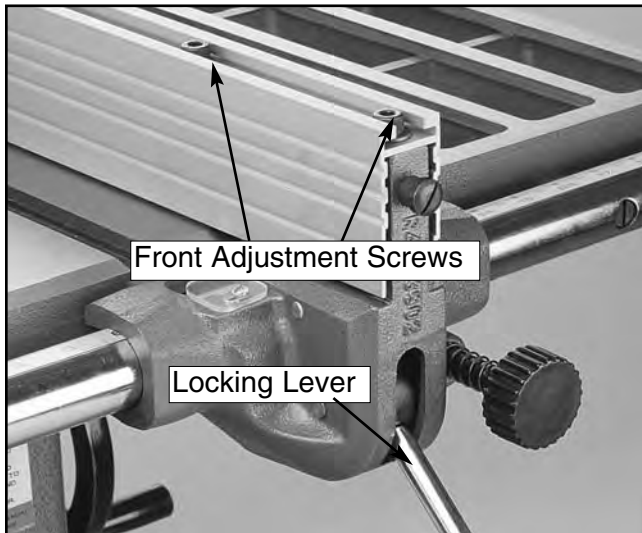

Figure 38. Adjustment bolts for fence parallelism.
4. Loosen the locking lever (**Figure 38**) until it is approximately two-thirds engaged. Make note of its position and lift it up all the way. Tighten the rear adjustment screw until the rear clamp is approximately $\frac{1}{16}$ " from the rail. Move the lock handle back to its two-thirds position. The rear clamp should just be touching the rail. If it is too loose or too tight, lift the handle and turn the adjusting screw in small increments until the clamp is in its proper location. **NOTE:** Do not turn the adjustment screw unless the lock handle is in the up position. Damage to the clamp shoe will result if this step is not observed.